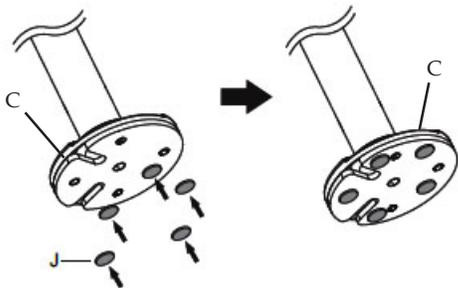

Figure 6
4. Place the Protective Pads (J) onto the bottom of the Grommet Plate (C), see Figure 6.